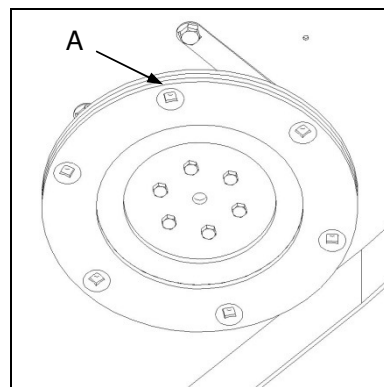

Fig. 6
- ✓ Check blade mounting holes (Fig. 6-A) for signs of wear, elongation or fractures. In the event of any observed defect do NOT attempt a repair, but immediately replace the defective disc.
- ✓ Gaan lemmonteringsgate (Fig. 6-A) na vir tekens van slytasie, rekking of breuke. In die geval van enige waargenome defek, moet NIE probeer om dit herstel nie, maar vervang die defekte skyf onmiddellik.